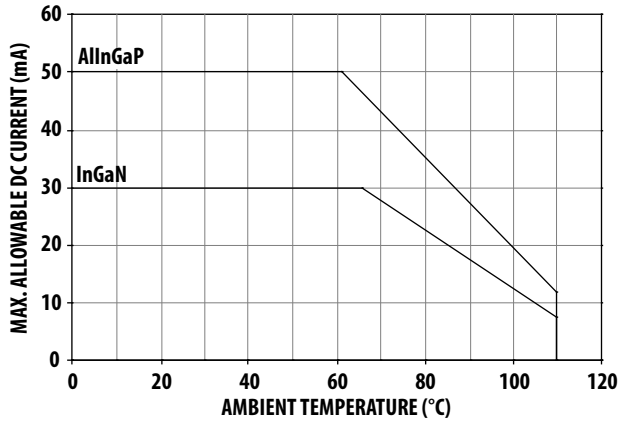
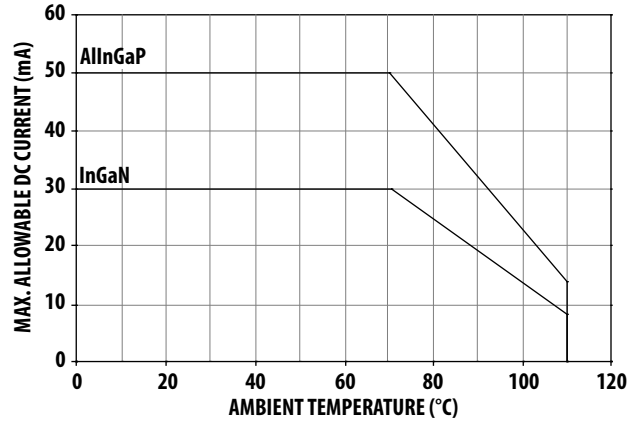

Figure 5a. Maximum forward current vs. ambient temperature. Derated based on $T_{jMAX} = 125^{\circ}C$.(3 chips)
Figure 5b. Maximum forward current vs. ambient temperature. Derated based on $T_{jMAX} = 125^{\circ}C$. (single chip)
1. Derate linearly as shown in Figure 5a & 5b.
4. Refer to Figure 5a and figure 5b for more information